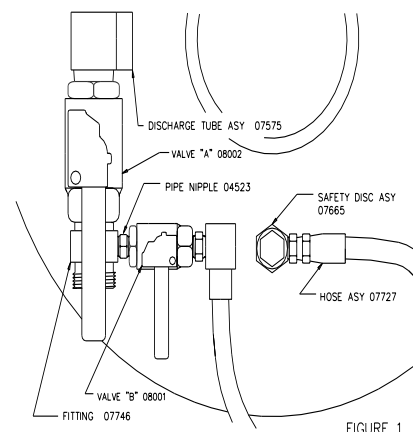

FIGURE 1
3. Remove ring pin and CLOSE agent cylinder valve (Valve A in Fig. 1) to prevent further chemical from entering the hose.
4. Remove ring pin and OPEN pressure vent valve (Valve B in Fig. 1) to allow argon gas to by-pass the chemical and pressurize the hose.